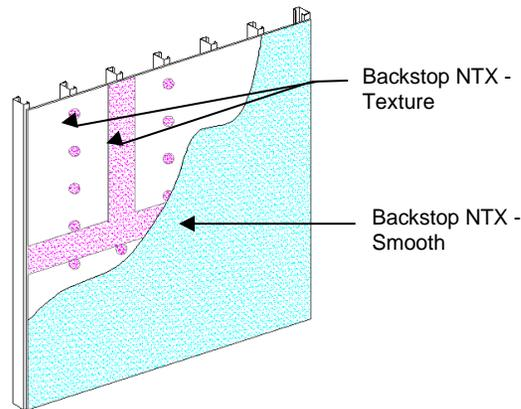

Figure 4
- 1) Backstop NTX - Smooth material should be applied in a uniform, continuous film at the recommended coverage rate free of voids and pinholes – Figure 4. **NOTE: Sheathing substrates with a surface texture or high porosity will require additional material.**